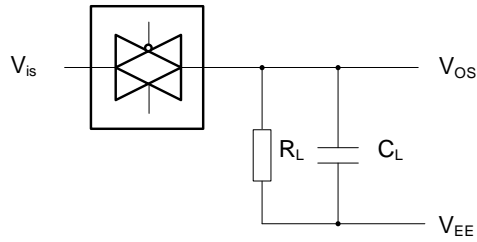

Figure 8-6 Square wave distortion degree of cut-off frequency and conduction frequency test pattern
- (3) $R_L=1k\Omega; C_L=5pF,$ channel off, $20\log V_{os}/V_{is}=-50dB,$ see Figure 8-6.
- (4) $R_L=1k\Omega; C_L=5pF,$ channel on, $20\log V_{os}/V_{is}=-3dB,$ see Figure 8-6.